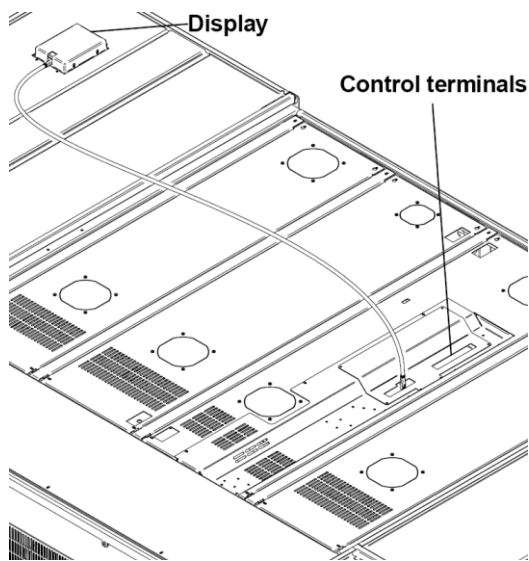
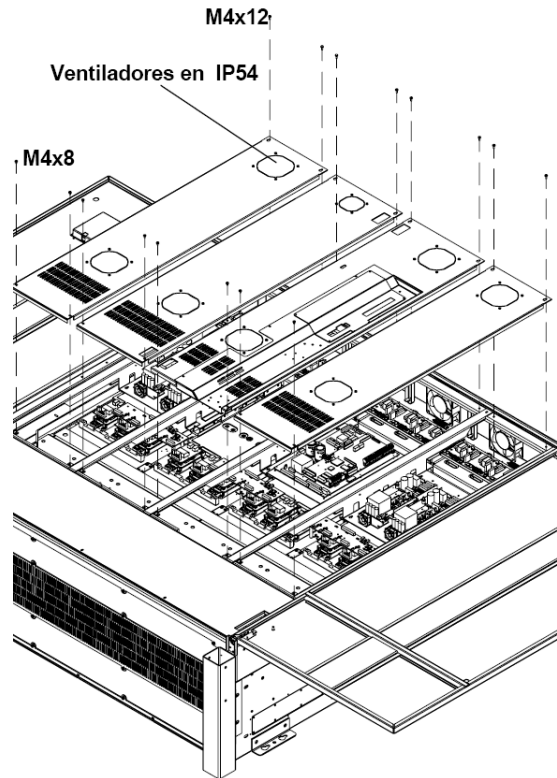

Figure 7.1 Disconnect the Display and the control terminals
Figure 7.2 Disassembly of the covers
Follow figure 7.1 y la figure 7.2 while reading these instructions:
- 1) Place the covers in the chassis as is shown in the figure 7.2.